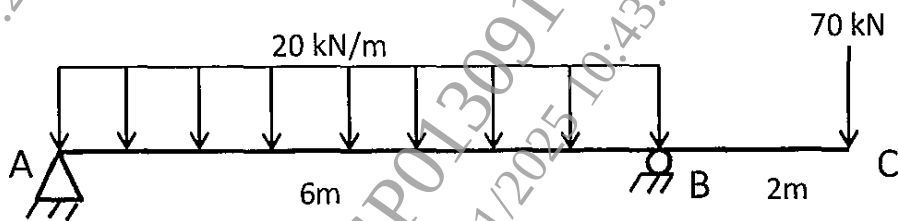

Figure 2
- Q3) a)** Plot Shear force and Bending moment diagram for the overhanging beam loaded and supported as shown in Figure 2 [8]